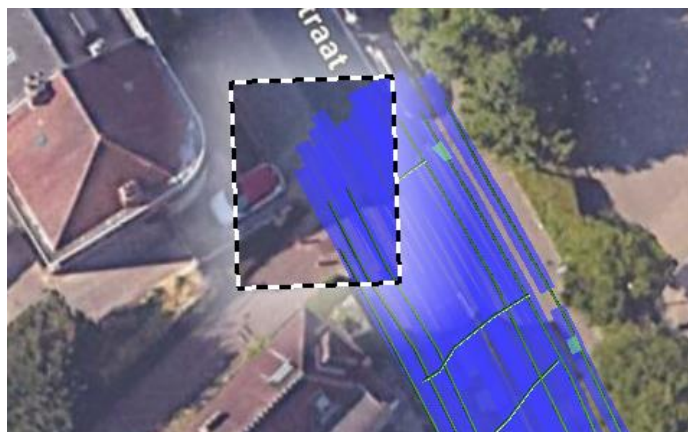

Fig. 45 Area selection
- Then press "alt" on keyboard, and select an area with Left Mouse Button pressed as shown in Fig. 45,